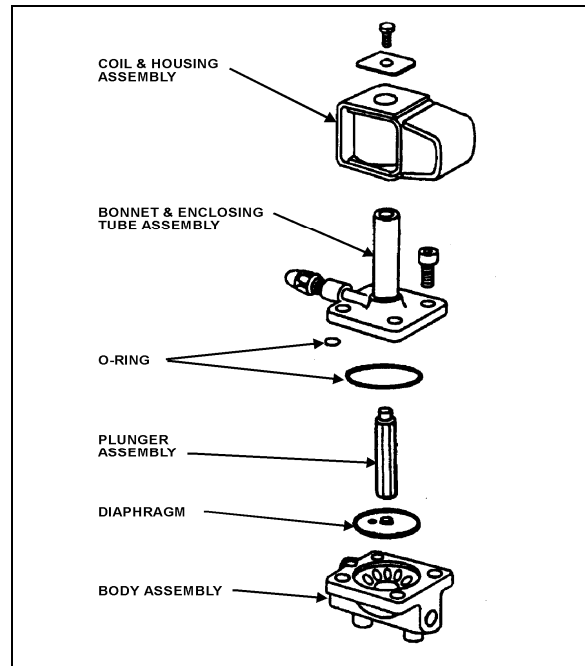

FIGURE 31: REFRIGERANT SOLENOID VALVE
3. Remove the four socket head screws which hold the body and bonnet together (Fig. 31).